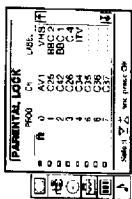

Fig. 24
- 3 Select "Parental Lock" with **Δ**+ or **▽**- and press OK. The PARENTAL LOCK menu appears. (See Fig. 24.)